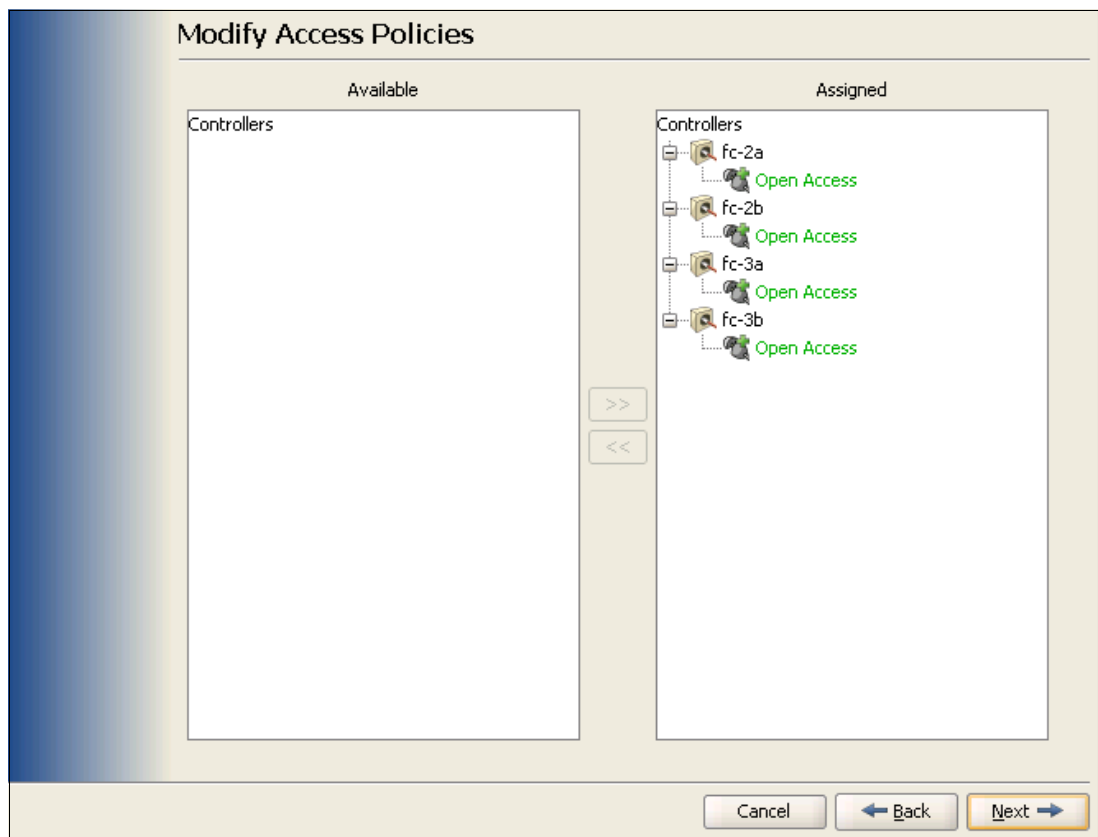

Figure 5-10 Selecting the ports to provide the access to the volumes
7. After you select the ports to provide the access to the new volumes, as shown in Figure 5-10, click **Next** to continue with the access.